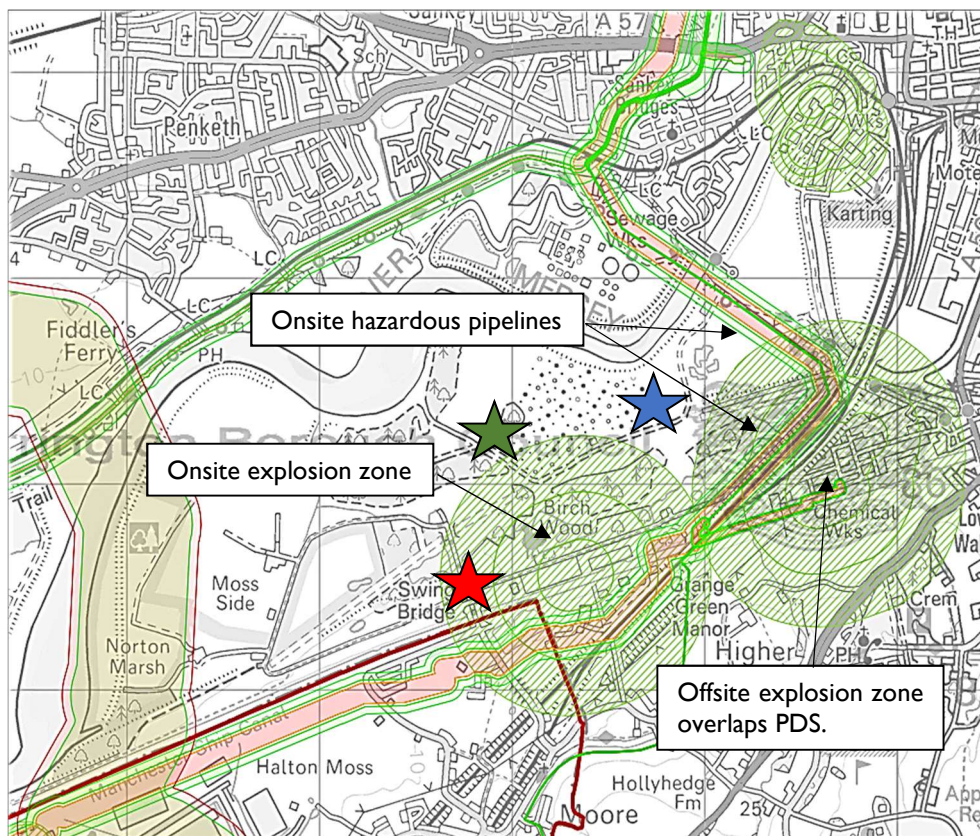

Figure 5.1 Warrington Planning Advice Map
- 5.1. Warrington Borough Council provide a planning advice service which combines all known planning constraints onto ordnance survey maps. The map in **Figure 5.1** has been copied from their mapping service and identifies the known hazardous pipelines and installation around the PDS.
- 5.3. A preliminary consultation with the Health and Safety Executive website has identified the same hazardous installations and pipelines as shown in **Figure 5.1**. Copies of the HSE plans have been included within **Appendix H**.